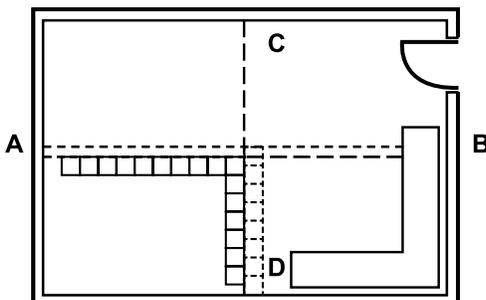

Fig. 4 - Adjust layout at center lines for larger border tiles.
- Adjust the chalk line if necessary to avoid narrow pieces at the side walls (Fig. 4).